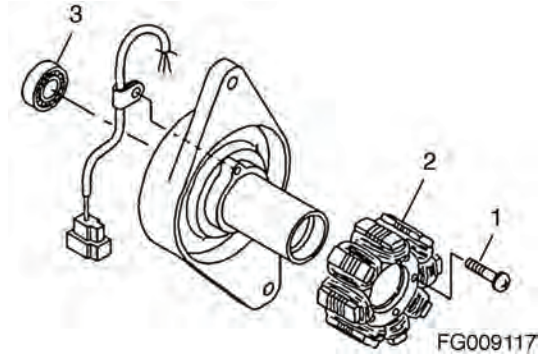

Figure 408
4. Remove the screws (1, Figure 408) and the stator assembly (2, Figure 408).
5. Remove the rear bearing (3, Figure 408).